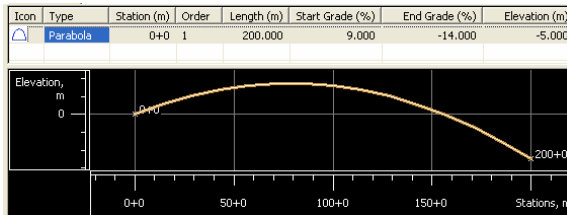

Figure 9-62. Table and Graph Pane for the Created Parabola
- Click **OK**. The Table and Graphic panes of the right panel of the *Roads* tab displays the created parabola (Figure 9-62).